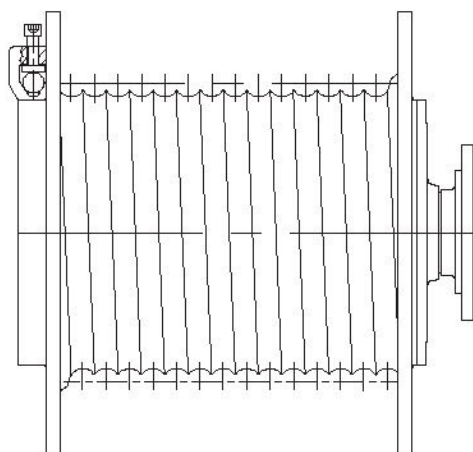
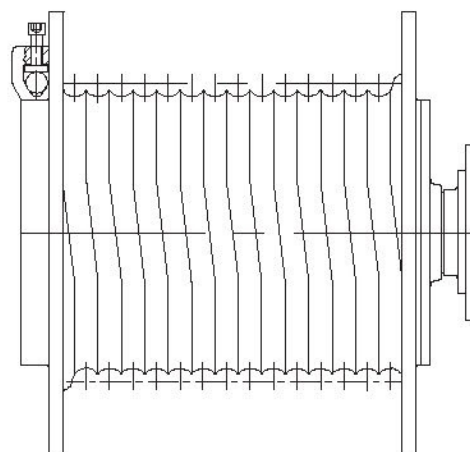

Figure 1
Figure 2
- 1) Drum with normal grooves (figure 1) and with special grooves (figure 2).
- 2) Rope groove has right hand lead and left hand. The default lead is right hand (figure 1).